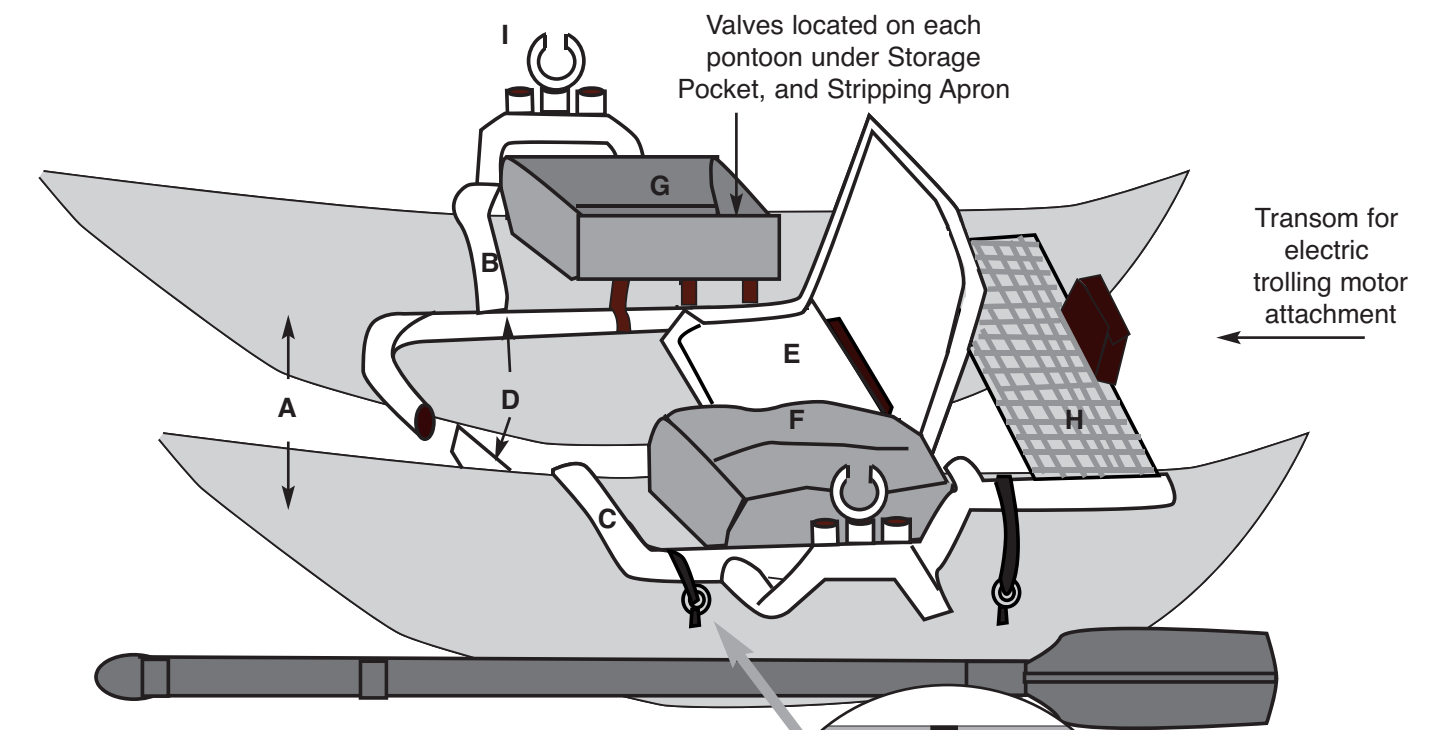

Figure 5
1. Inflate each pontoon. The valve is located at the top center of each Pontoon (see figure 5). Inflate until firm (do not over inflate).
(see figure 5)